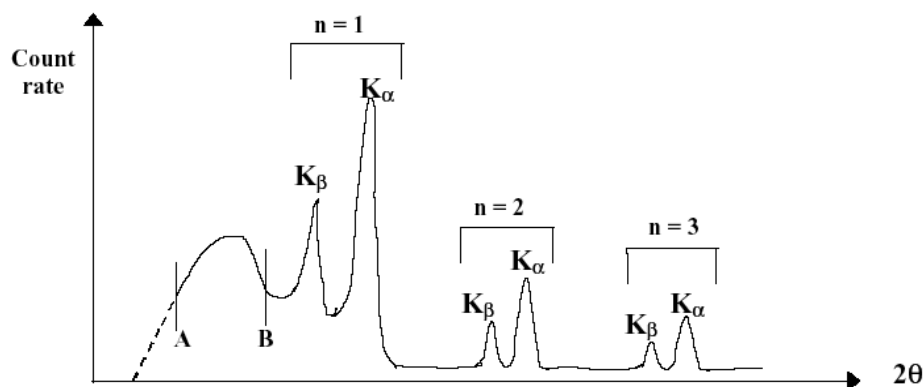

Figure 5: The x-ray spectrum of copper.
8. Mount the Geiger-Mueller (GM) tube and its holder in slot 26 of the Carriage Arm assembly *without* a spring clip, ensuring that the cable is leading out from the underside and that the end-window is facing the crystal post. Connect the GM tube to the Radiation Counter, turn on the Radiation Counter and set the tube voltage to 400 V.
12. Plot the count rate (in counts/second) vs. 2θ in 1° intervals. Where the count rate appears to peak, plot intervals of only $10'$ arc using the thumb-wheel. At each peak, measure and record the maximum count rate and the angle 2θ as precisely as possible. Your plot should look similar to Figure 5; however, the LiF crystal will only allow you to observe the first two orders ($n = 1$ and $n = 2$).
1. Due to the shield at the front of the x-ray device, your rate vs. 2θ plot will probably start at point A on Figure 5 rather than on the x-axis. Extrapolate the curve down to the axis and determine θ_{min} . Note that the curve may flatten out before intercepting the axis due to background; neglect this effect in your extrapolation.
2. Use these θ and Equation 1 to get values for the K_{α} and K_{β} transitions in copper. Here, the values of n are as in Figure 5, and $d_{LiF} = 0.2014$ nm. You should have two values for each line (one from each order). To determine the uncertainties in where the peak lies, a decent estimate is the full width at half max (FWHM). This is just what it sounds like. Measure the width of the peak half-way between the base of the peak and the top of the peak. One-half of this value is a good approximation of σ .